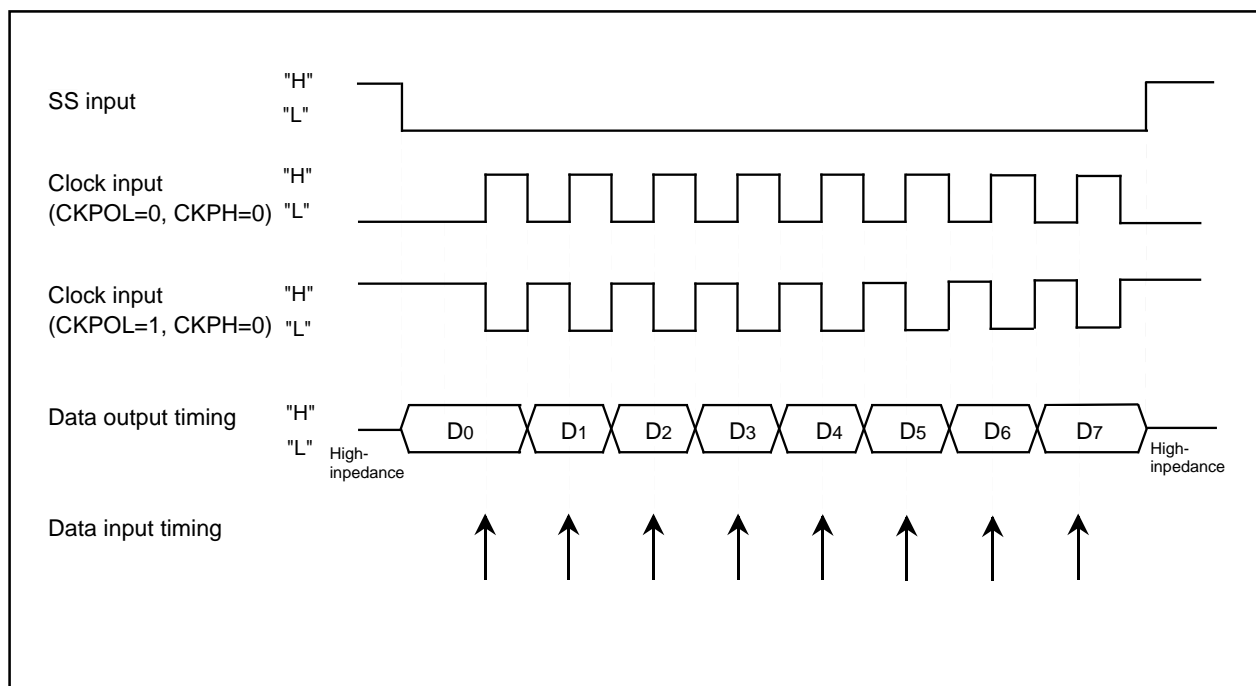

Figure 1.20.9. The transmission and reception timing ($CKPH=1$) in slave mode (external clock)
- With "1" for bit 1 (CKPH) of UARTi special mode register 3 (addresses 0325₁₆ and 02F5₁₆ [*i* = 3 or 4]), when an SSi input pin is H level, output data is high impedance. When an SSi input pin is L level, the first data is output. After that, serial transmission is synchronized with the clock. Figure 1.20.9 shows the timing.